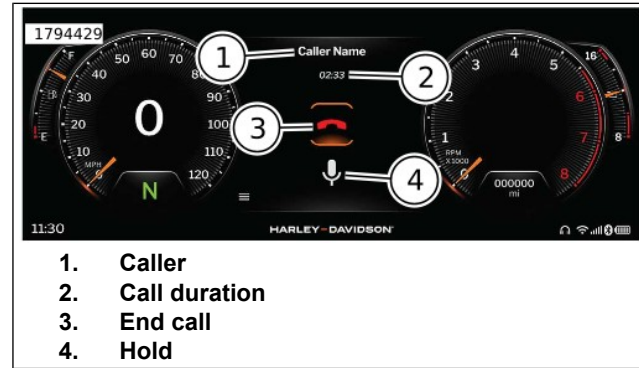

Figure 82. In Call Functions
5. See Figure 82. To place caller on hold, select hold (4) and press OK/enter. Press OK/enter again to remove from hold.
6. To end call, select end call (3) press OK/enter.
See Figure 82. To end the call select end call (3).